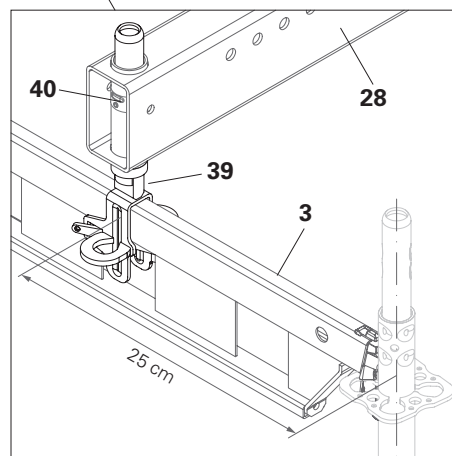

Fig. A8.02b
4. Secure the ledger (**28**) and the ledger-to-ledger coupler (**39**) with the locking pin (**40**). (Fig. A8.02b)